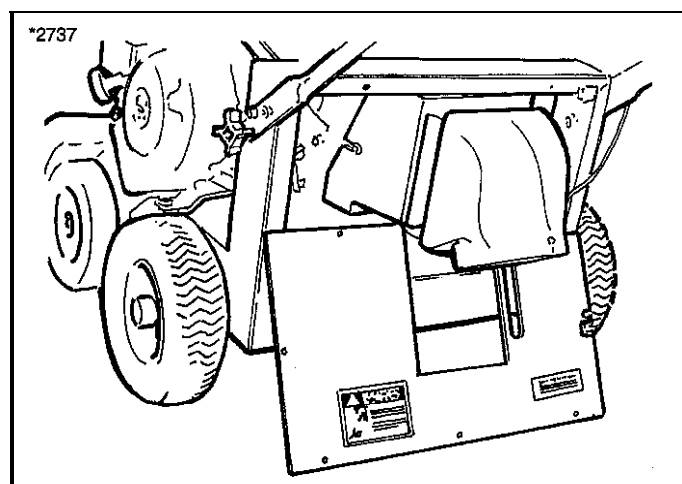

Figure 33. Remove Rear Panel
7. Slide the rear panel down, and tilt the rear of the unit up slightly to allow the panel to slide free of the grooves in the discharge tube (Figure 33).